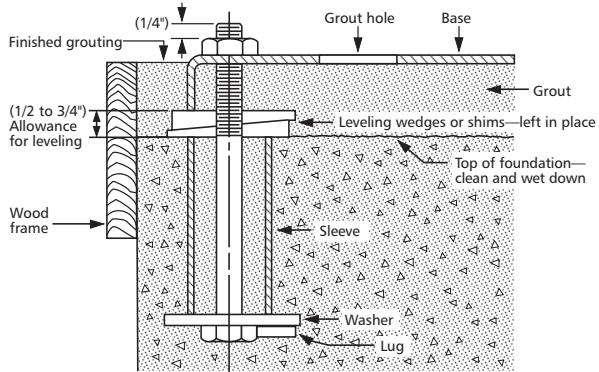

Figure 1
2.3.1. It is recommended that the bedplate be grouted to a foundation with solid footing. Refer to Figure 1.